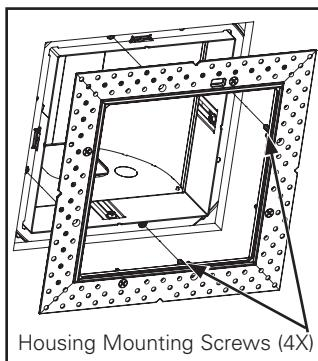

Figure 5.
- Attach the rimless adapter to the housing using the four housing mounting screws (Figure 5.). Continue to tighten the housing mounting screws until the perforated frame of the rimless adapter is loosely touching the ceiling surface. DO NOT completely sandwich the ceiling at this time.